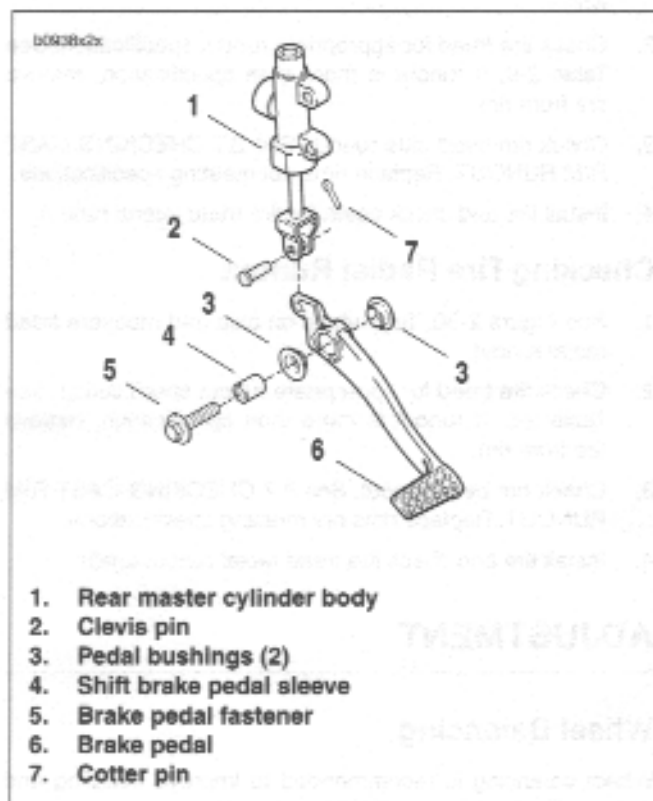

Figure 2-32. Brake Pedal Assembly
1. See Figure 2-32. Remove cotter pin (7) and discard.
2. Remove clevis pin (2).
3. Remove pedal fastener (5).
4. Remove shift brake pedal sleeve (4).
5. Remove pedal bushings (3).
6. Remove brake pedal (6).
1. See Figure 2-32. Install pedal bushings (3).
2. Install shift brake pedal sleeve (4).
3. Install brake pedal (6) using LOCTITE 272 and tighten fastener (5) to 22-24 ft-lbs (30-33 Nm).
4. Install clevis pin (2).
5. Install **new** cotter pin (7).